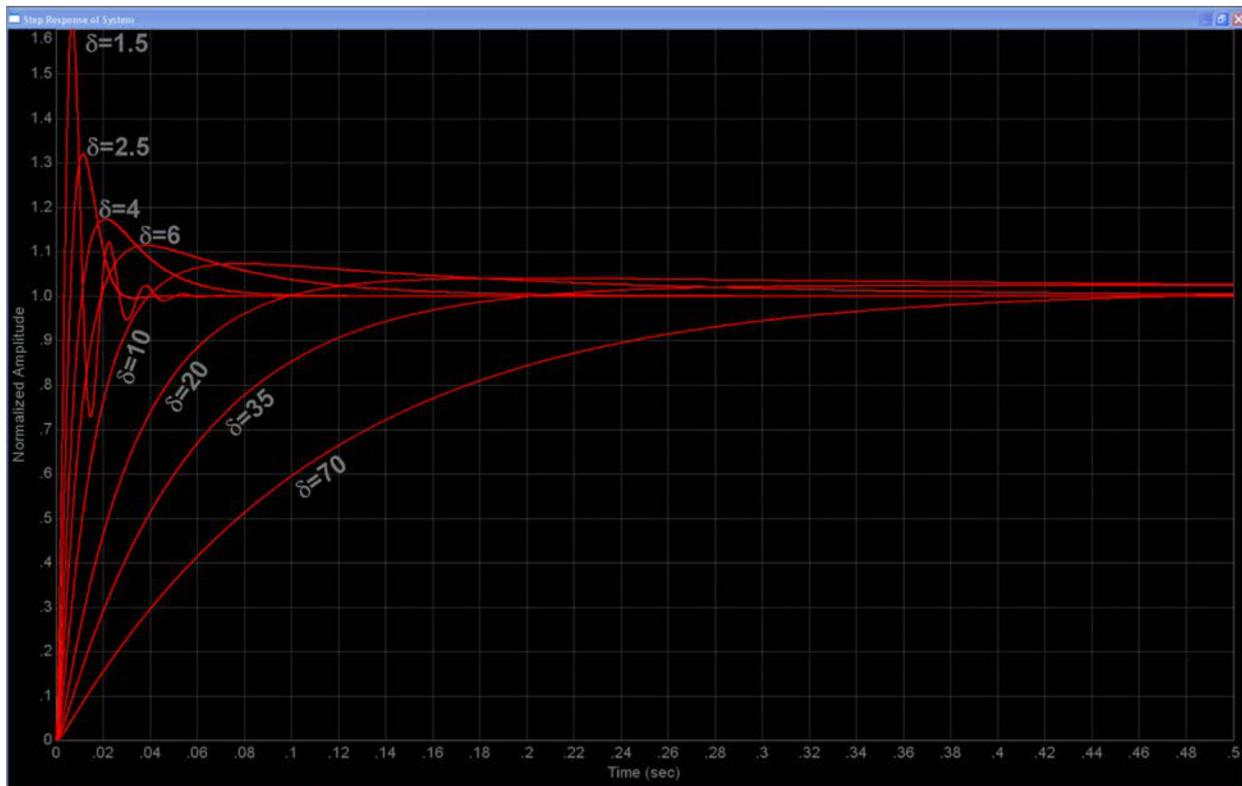

Figure 11-10. Step Response of Speed Controller as a Function of δ
The required frequency separation between the -3 dB cutoff point of the speed closed loop response and the current controller pole is clearly seen along the bottom of the graph for various values of the damping factor. As the damping factor approaches unity, the complex poles in the speed loop approach the required frequency sep damped ringing. This is perhaps better visualized in Figure 11-10, which shows the normalized step response of the system for various values of the damping factor. Values below 2 are usually unacceptable due to the large amount of overshoot. At the other end of the scale, values much above 30 usually unacceptable due to the large amount of overshoot. At the other end of the scale, values much above 30 usually don't work either because of the extremely long rise and settling times, as seen in the step response curves. In-between these values is usually your design target window.
- Using the shape of the curves in Figure 11-10, find the lowest value of damping factor that will produce a satisfactory response for your speed loop. We have found that it is OK to pick a damping factor with a little more overshoot than you prefer, since integrator clamping will remove most of it anyway. At this point, the scaling of the frequency and time axes is irrelevant.